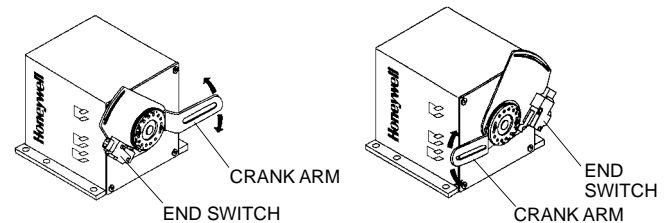

FIGURE 1 - CRANK ARM STROKE RANGE
1. Determine the crank arm stroke range (See Fig. 1) by running the actuator through one complete cycle. Mount the end switch on the side opposite of the crank arm stroke range.
6. Based on the determination of the crank arm stroke range in Step 1 above, remove the screw from the upper actuator corner where the switch mounting plate is to be assembled. (See Fig. 1)